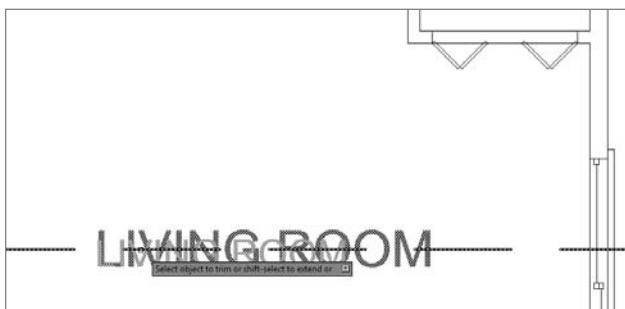

FIGURE 8.26 Breaking the ridgeline using the TRIM command
4. At the **Select Object To Trim Or Shift-Select To Extend** prompt, select a point along the ridgeline where the LIVING ROOM text overlaps it as shown in Figure 8.26.